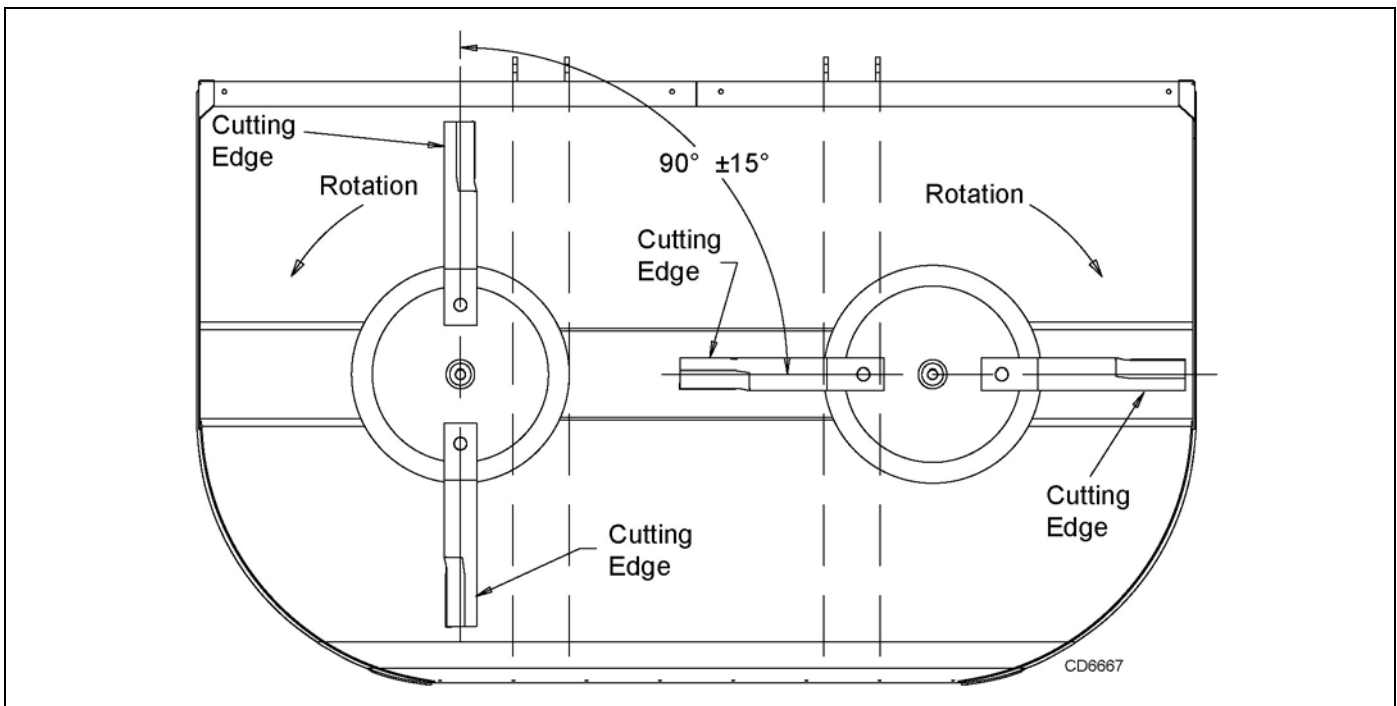

Figure 25. Crossbar Timing - Bottom View
1. To re-time crossbars, position bars as shown in Figure 25.